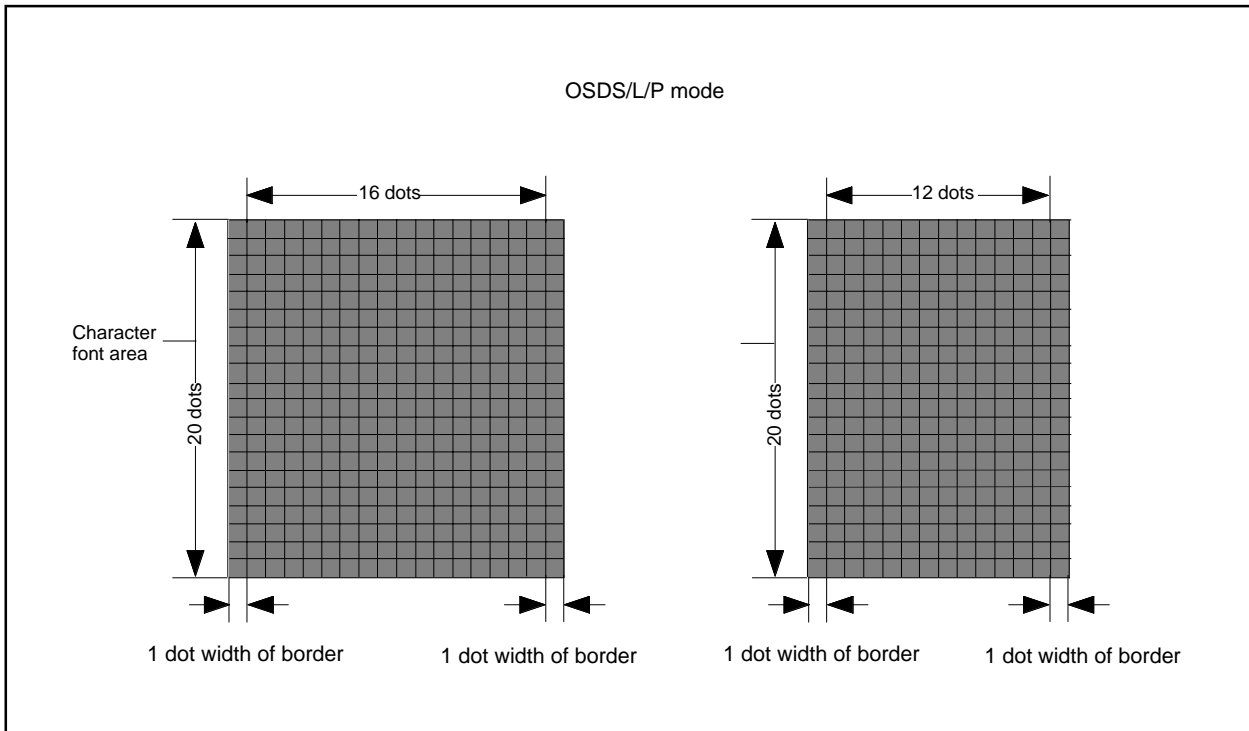

Figure 2.16.35 Border area
- Notes 1 :** The border dot area is the shaded area as shown in Figure 2.16.35.